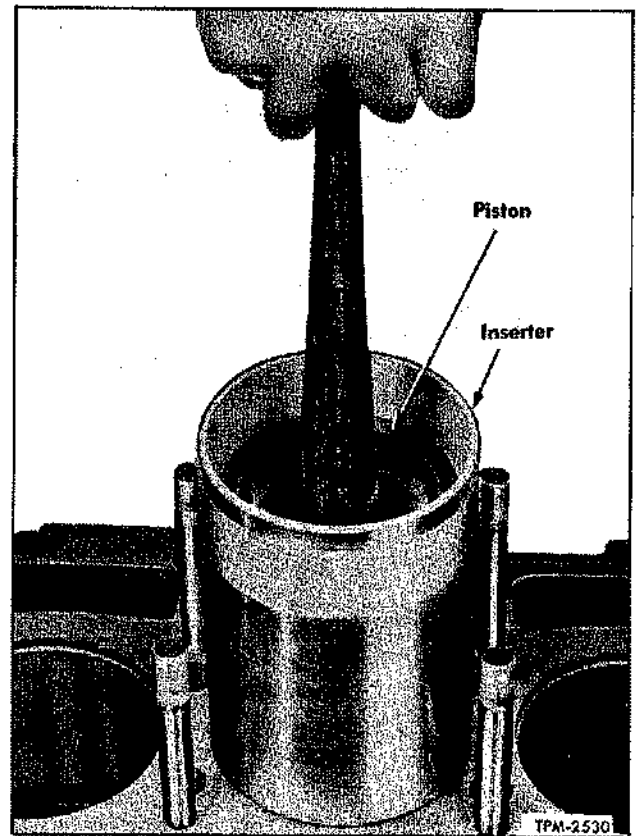

Figure 49—Installing Piston and Rod in Liner Installed in Block
2. Align lower end of rod with crankshaft before pushing piston in cylinder. Push piston in the cylinder bore by tapping on upper end of piston with a wood block (fig. 49). Hold compressor tool down tight on top of liner so rings cannot snap out before entering liner bore.